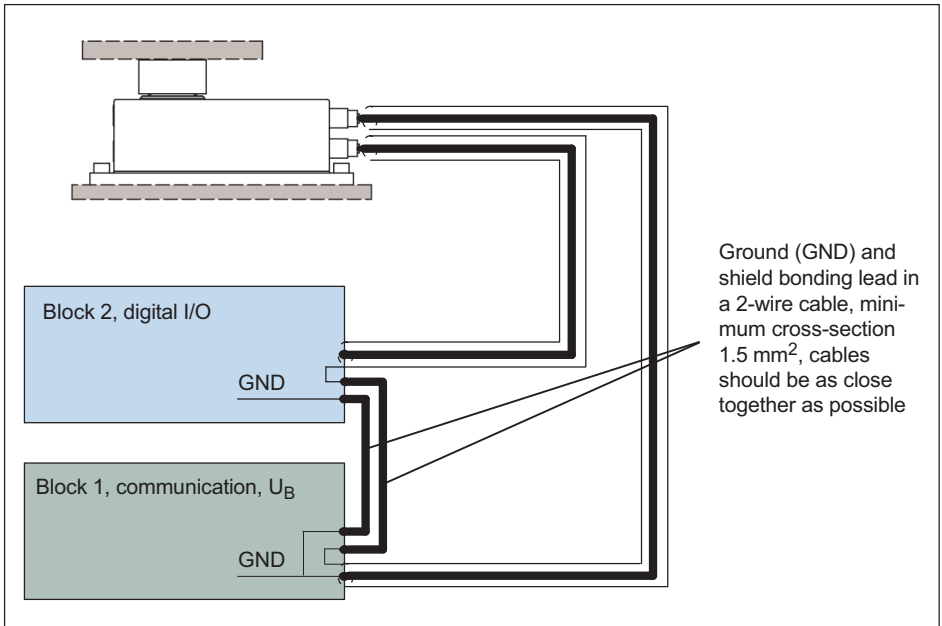

Fig. 7.2 Connecting GND potentials in separate function blocks
1. The arrangement of the function blocks, i.e. the digital part for the switch outputs and the part for supplying with operating voltage and the interface, is physically separate (Fig. 7.2).
In the first case, make sure that the shields of both leads, as well as the GND potential, are each connected with a wire with a minimum cross-section of 1.5 mm^2 . However, the individual leads must not take different routes, they must be close together and of the same length. The total length of a conductor must not exceed 10 m (Fig. 7.2).